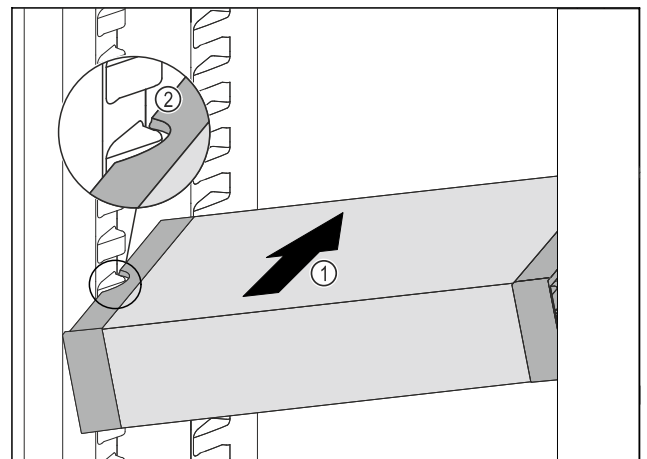

Fig. 191
- Insert the VarioSafe into the fridge section at an angle Fig. 191 (1) until the recesses in the side Fig. 191 (2) of the VarioSafe are at the level of the support rib in the fridge section.